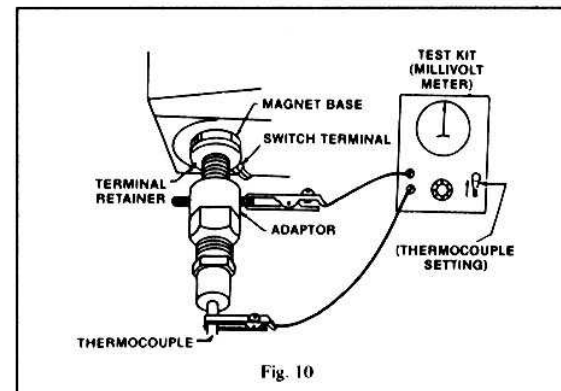

Fig. 10
- b. Connect Adaptor No. 75036 and Test Kit as shown in Figure 10, being sure connections are tight.
4. With adaptor connected as in Figure 10, check as follows: